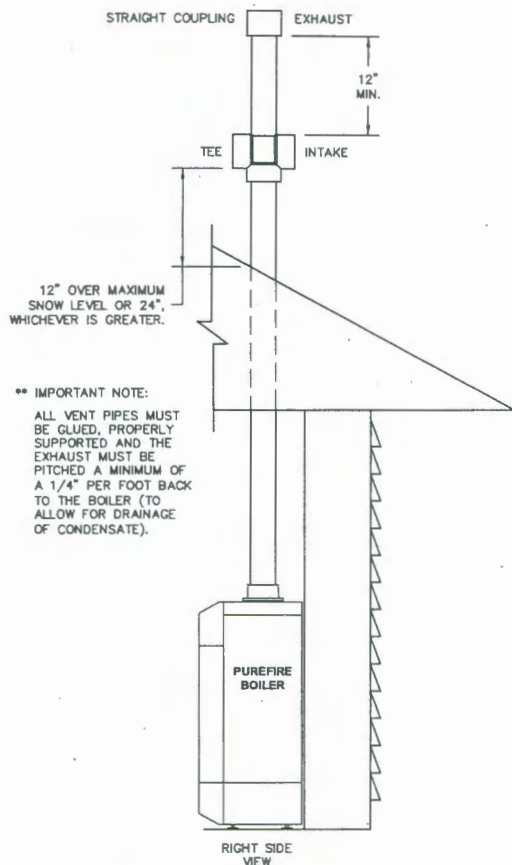

Figure 3.7: Standard Vertical Vent Installation
a. Figure 3.7 shows the approved venting configuration for vertical venting using the standard fittings supplied.